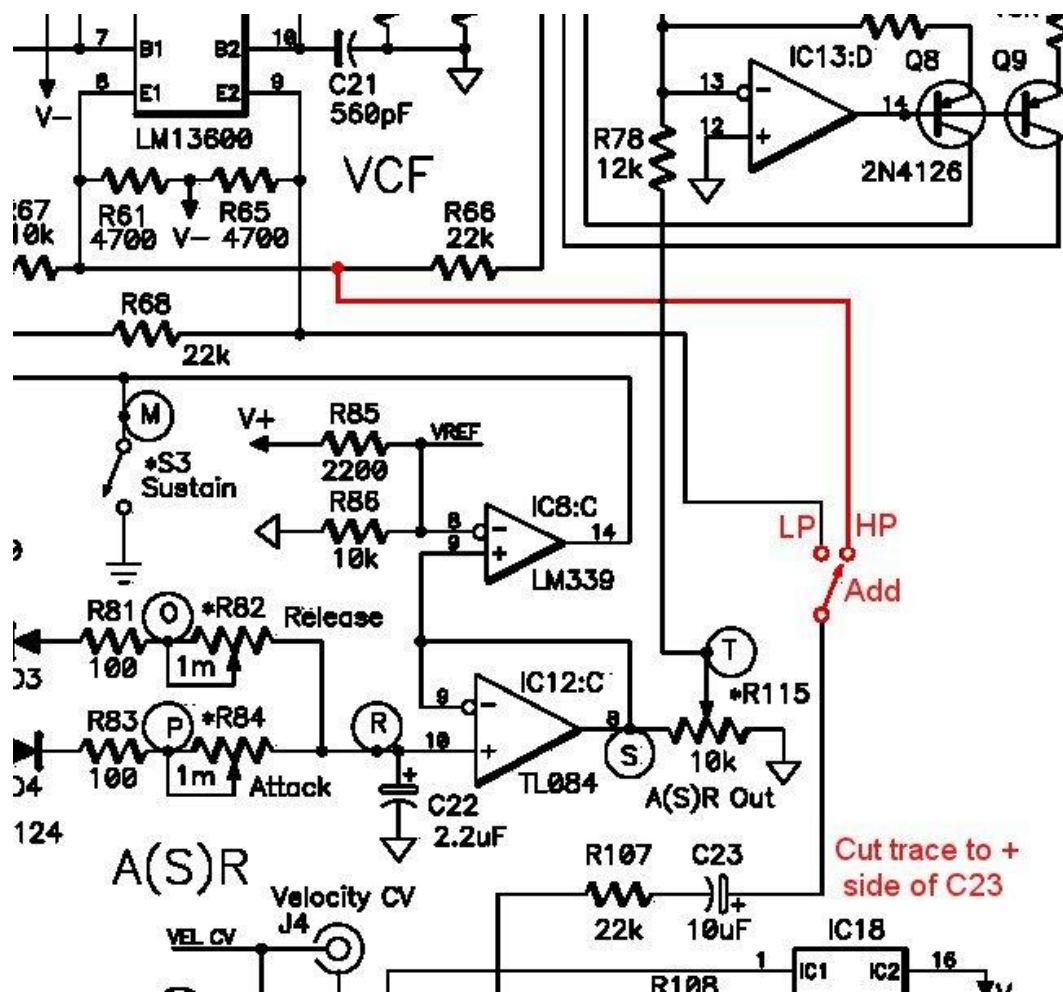

Figure 3.
10. HP Filter: Disconnect positive side of C23 from pin 9. Connect positive side of C23 to center of SPDT switch. Wire one side to pin 9. Wire other side to pin 8 (figure 3).